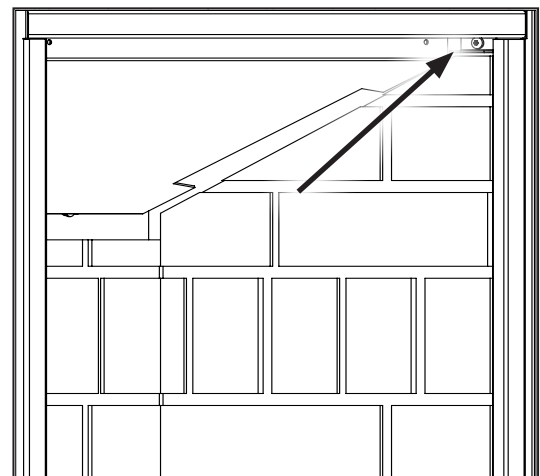

Figure 45. Brick Panel Retainer.
7. Install the supplied brick panel retainers (see Figure 45) on each side of the firebox above the ceramic panels. Make sure the panels are plum with the front of the firebox.